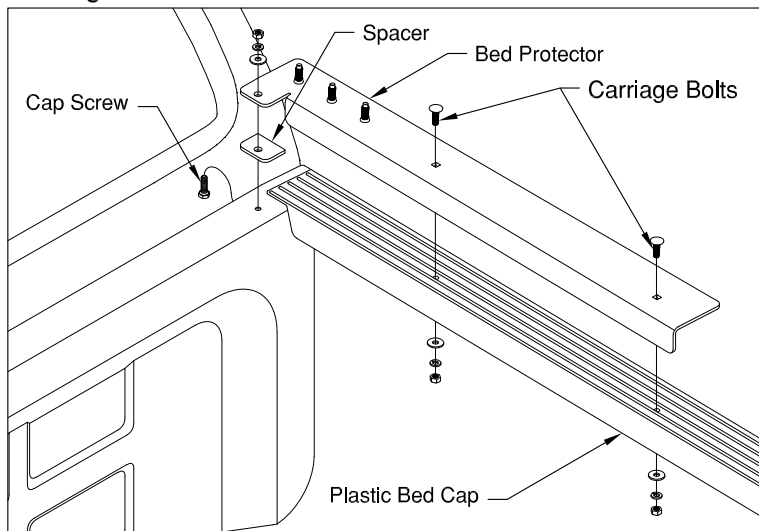

FIGURE A1: PASSENGER BED CORNER
1. **Verify proper fit of Cab Protector.** Place the bed protectors on the pickup sides as shown in figure A1. Make sure the Bed Protector flange is pushed tightly against the front of the bed and the inside of the bed sides. Measure across the truck from the center of the middle threaded stud on the driver side to the center of the middle stud on the passenger side. Next measure the distance between the centers of the slots at the bottom of the cab protector. The two measurements should be within 1/2" of each other.
5. **Install bed protectors.** Insert a 5/16" X 1-1/2" Carriage bolt in each of the four square holes and secure using a flat washer, lock washer and finish nut. From the inside lip of the front of the bed insert a 5/16" X 1" Cap Screw and attach (from the top) with a flat washer, lock washer and finish nut, See figure A1. Fasten the bed protectors into place but do not fully tighten hardware at this time.